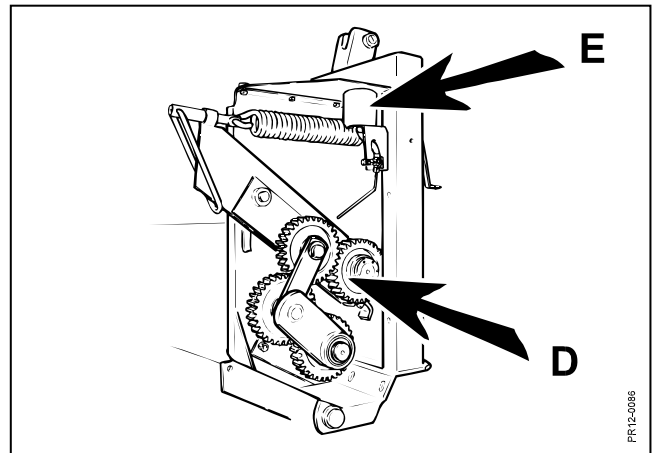

Fig. 5-18
- Fig. 5-18** The gearwheel drive of the rollers (at **D**) is lubricated by drip-feed lubrication. The oil reservoir **E** is filled with chain saw oil. Fill up after approx. every 20th working hour (0.5 litre). Make sure that no dirt enters the reservoir, choking up the oil feed.